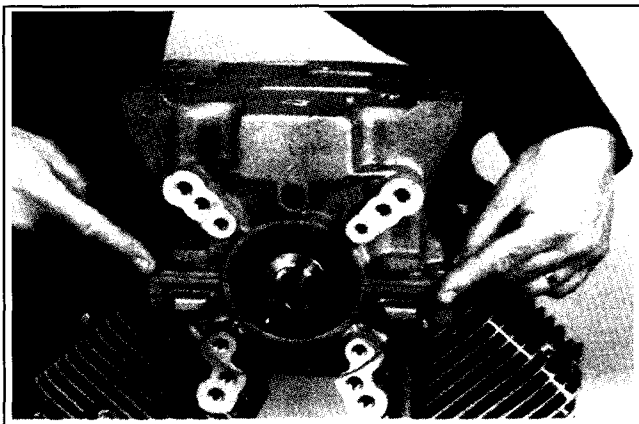

Figure 9-43. Location of the Splitting Tabs.
- Pry between lifting tabs to separate the crankcase halves. See Figures 9-43 and 9-44.